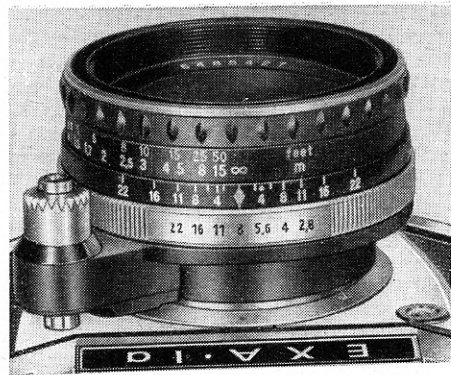

Fig. 9
**Fully-automatic spring diaphragm on Jena T 2.8/50 mm lens (Fig. 9):**